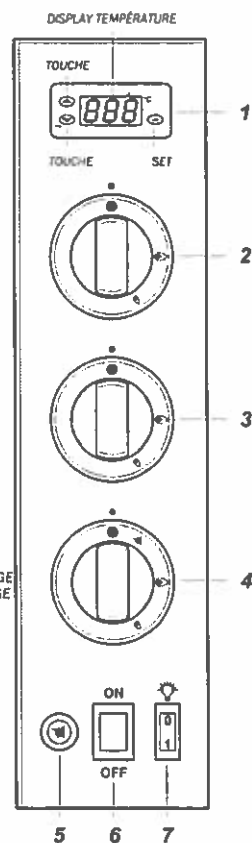

FIG. 14 (PANNEAU DE CONTRÔLE)
6) TOURNER LA MANETTE DU ROBINET GÉNÉRAL (FIG.14 RÉF.4) DANS LA POSITION (PUISSANCE MAXIMUM)
7) OUVRIR LES ROBINETS DE VÔÛTE (FIG.14-RÉF.2) ET DE SOLE (FIG.14-RÉF.3) EN TOURNANT LES EN SENS INVERSE DES AIGUILLES D'UNE MONTRE. LES PORTER SUR LA POSITION (PUISSANCE MAXIMUM). LA FLAMME SE PROPAGERA DU BRÛLEUR D'ALLUMAGE À TOUS LES BRÛLEURS DE VÔÛTE ET DE SOLE. QUAND ON ATTEINT LA TEMPÉRATURE VOULUE, LES BRÛLEURS S'ÉTEIGNENT. ILS FONCTIONNERONT DONC PAR INTERMITTENCE POUR MAINTENIR LA TEMPÉRATURE.
- 3) PRESSER L'INTERRUPTEUR GÉNÉRAL D'ALIMENTATION ÉLECTRIQUE (FIG.14 RÉF.6) LA LUMIÈRE VERTE S'ALLUME;
- 4) RÉGLER LA TEMPÉRATURE DE CUISSON EN PRESSANT EN MÊME TEMPS LE TOUCHE "SET" ET "+" OU "-" (FIG.14-RÉF.1):
- 5) TOURNER LA MANETTE DU ROBINET GÉNÉRAL D'ALIMENTATION DU GAZ (FIG.14 RÉF.4) SUR LA POSITION MAINTENIR LA MANETTE ENFONCÉE ET PRESSER EN MÊME TEMPS PLUSIEURS FOIS L'ALLUMAGE PIÉZOÉLECTRIQUE DE LA VEILLEUSE (FIG.14-RÉF.5).
AVEC LE PANNEAU DE CONTRÔLE (FIG. 14) SITUÉ DANS LA PARTIE FRONTALE DROITE L'OPÉRATEUR PEUT EFFECTUER MANUELLEMENT LA MISE EN PLACE ET INTRODUIRE LES PARAMÈTRES DE CUISSON DU FOUR.